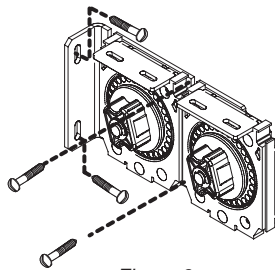

Figure 3
- ② Mark wall, jamb or ceiling for placement of mounting brackets.
- ③ Drill small starter holes (if necessary) in mounting surface.
- ④ Mount brackets using appropriate fasteners for surface (see Fig. 3). **The installer is responsible for selecting mounting hardware appropriate for site conditions.**